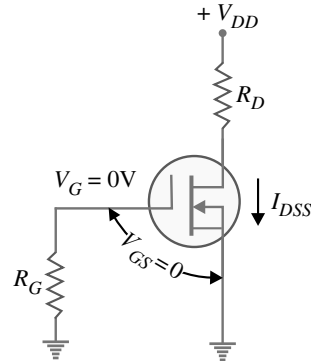

Fig. 17.60
We can use the simple circuit of Fig. 17.60 to provide zero-bias. This circuit has  $V_{GS} = 0\text{V}$  and  $I_D = I_{DSS}$ . We can find  $V_{DS}$  as under :
**Example 17.35.** Determine the drain-to-source voltage ( $V_{DS}$ ) in the circuit shown in Fig. 17.60 above if  $V_{DD} = +18\text{V}$  and  $R_D = 620\Omega$ . The MOSFET data sheet gives  $V_{GS(\text{off})} = -8\text{V}$  and  $I_{DSS} = 12\text{ mA}$ .